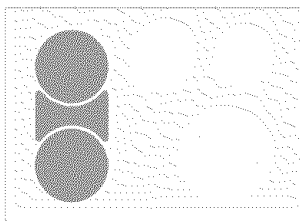

Fig. 5
4. When cooking has completed, turn the surface control knob to OFF before removing the cookware. The **HE** message will appear in the display after turning the control knob to **OFF** if the cooktop is still hot and will remain on until the radiant heating surface area has cooled sufficiently. **Note:** See page 8, Fig. 5 for recommended control settings.
The BRIDGE element may also be used in combination with the left rear single element. Because these elements have 2 different controls, one element can be used to cook while the other element may be used to keep food warm (See Fig. 5).